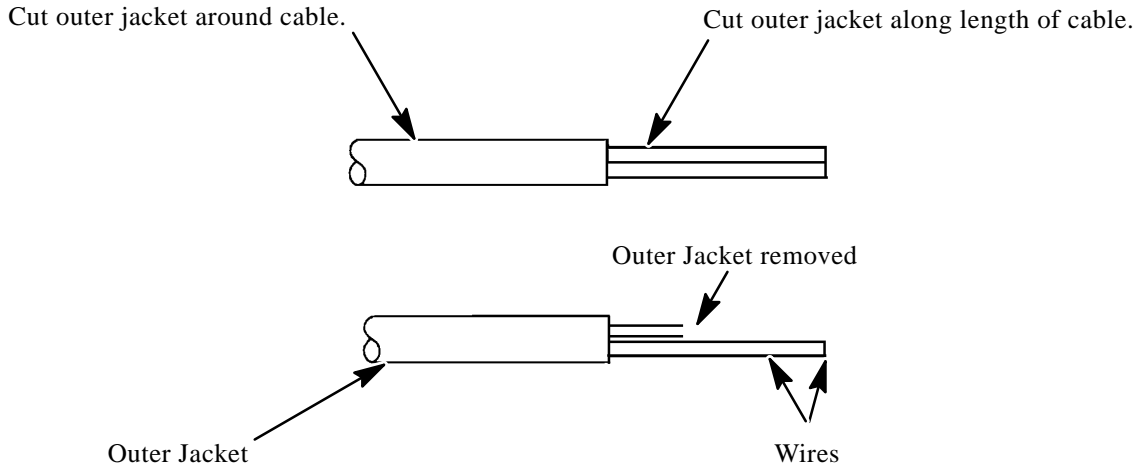

Figure 6. Removing Outer Jacket
- a. Cut the outer jacket of the thermocouple cable using a sharp blade or knife. Slit the outer jacket between parallel conductor wires. Remove the outer jacket (see Figure 6).